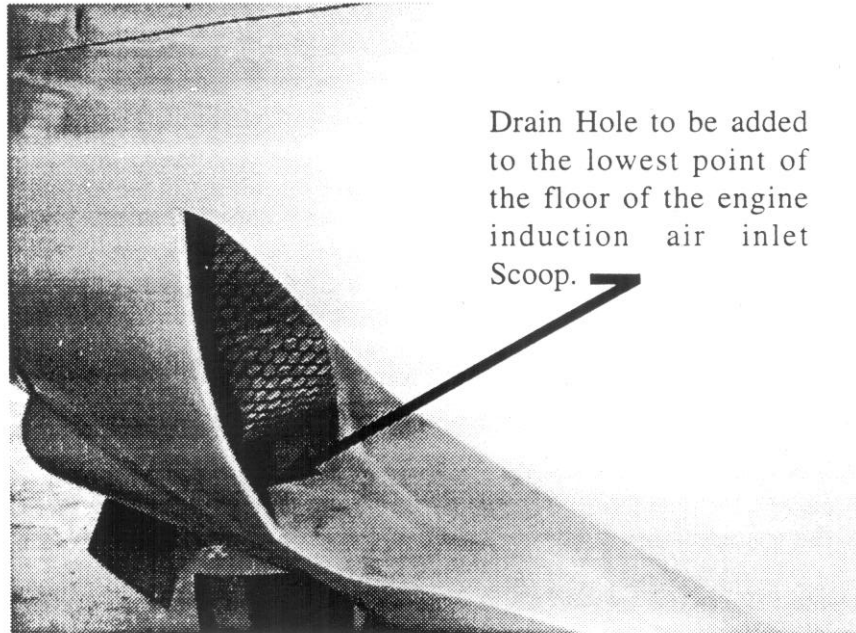

FIG. 1
1. Locate the NACA engine induction air inlet scoop on the right side of each Seneca V engine cowling, and on the left side of the Archer III and Saratoga II HP. (See Fig. 1.) Remove the upper cowl(s) to access the air filter assembly.